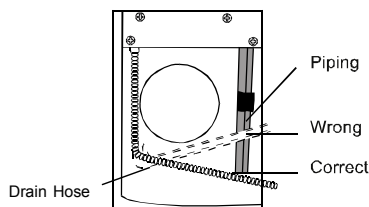

Fig.14
2. The drain hose should be sloped down. Any upturn is not permitted. (Fig 14)